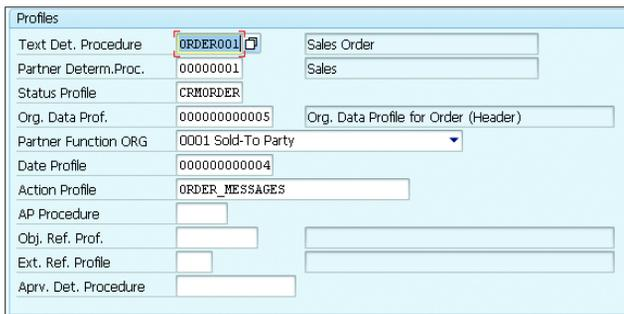

Figure 4.66 Text Determination Procedure Assigned to the Transaction Type
14. Assign the text determination procedure to the transaction type in Customizing via CUSTOMER RELATIONSHIP MANAGEMENT • TRANSACTIONS • BASIC SETTINGS • DEFINE TRANSACTION TYPES. Under the PROFILES section, assign the text determination procedure created to the transaction type. This activates the text determination functionality to the business transaction, as shown in Figure 4.66.